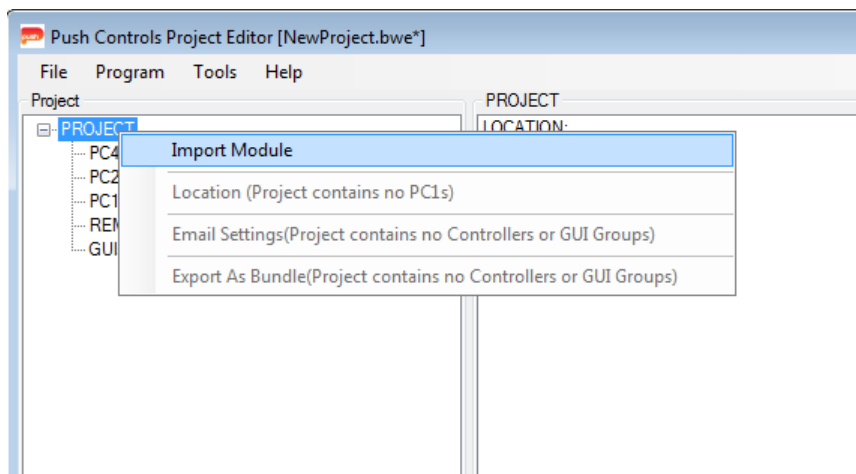

Figure 1 – Right click on PROJECT, inside the project tree, to import a module.
- Right click on 'PROJECT' at the top of the tree and select 'Import Module'. Refer to Figure 1